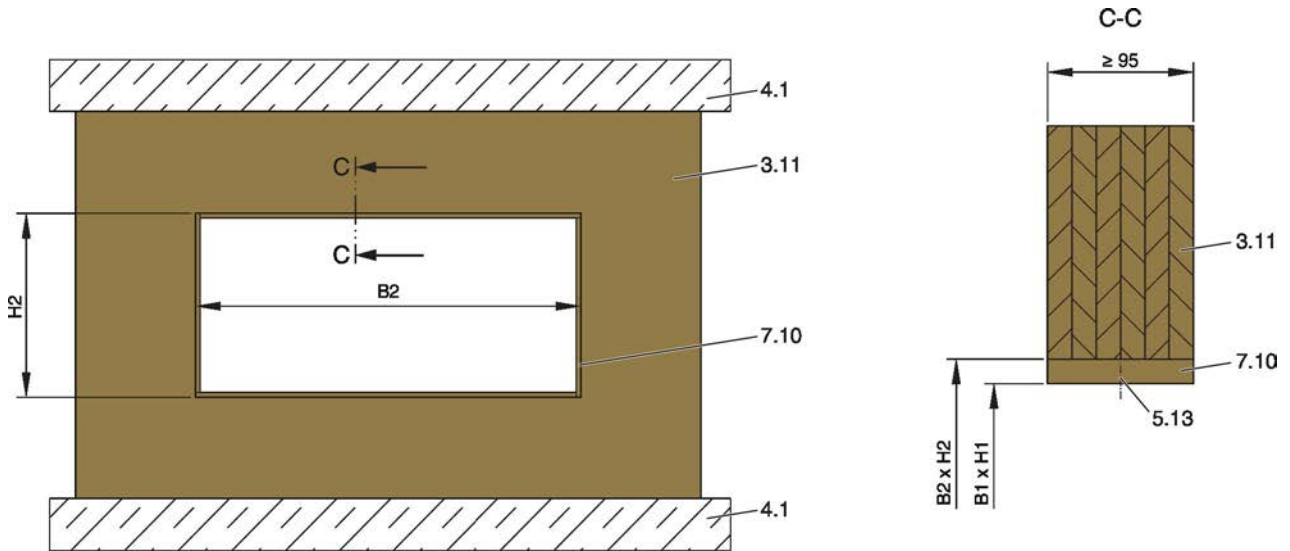

Fig. 46: Solid wood wall with cladding on both sides
- Erect the solid wood wall according to the manufacturer's instructions and create an installation opening, see Fig. 46